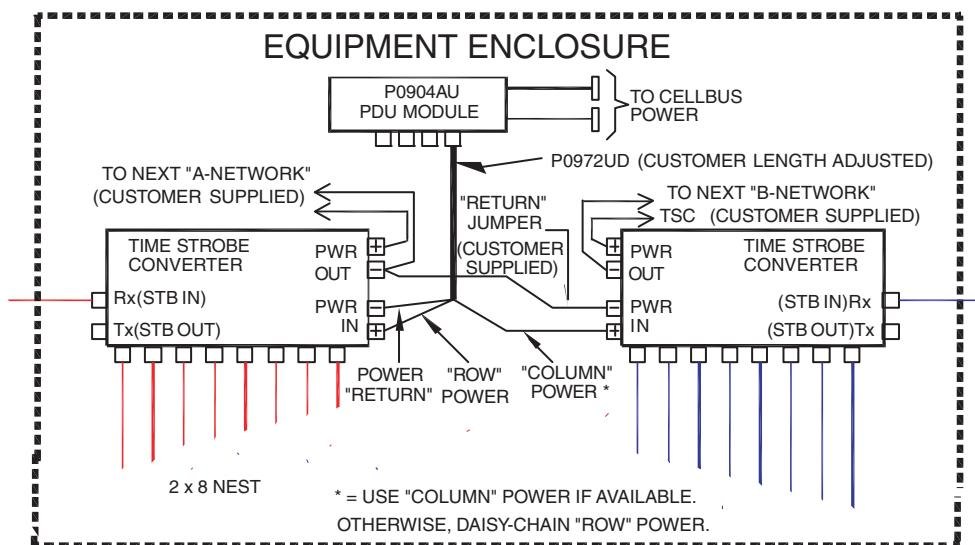

Figure 5-49. P0904AU Power Distribution Module, Dual TSC Power Connection
5. Connect cable P0972UD to the TSC (see Figure 5-49) as follows: